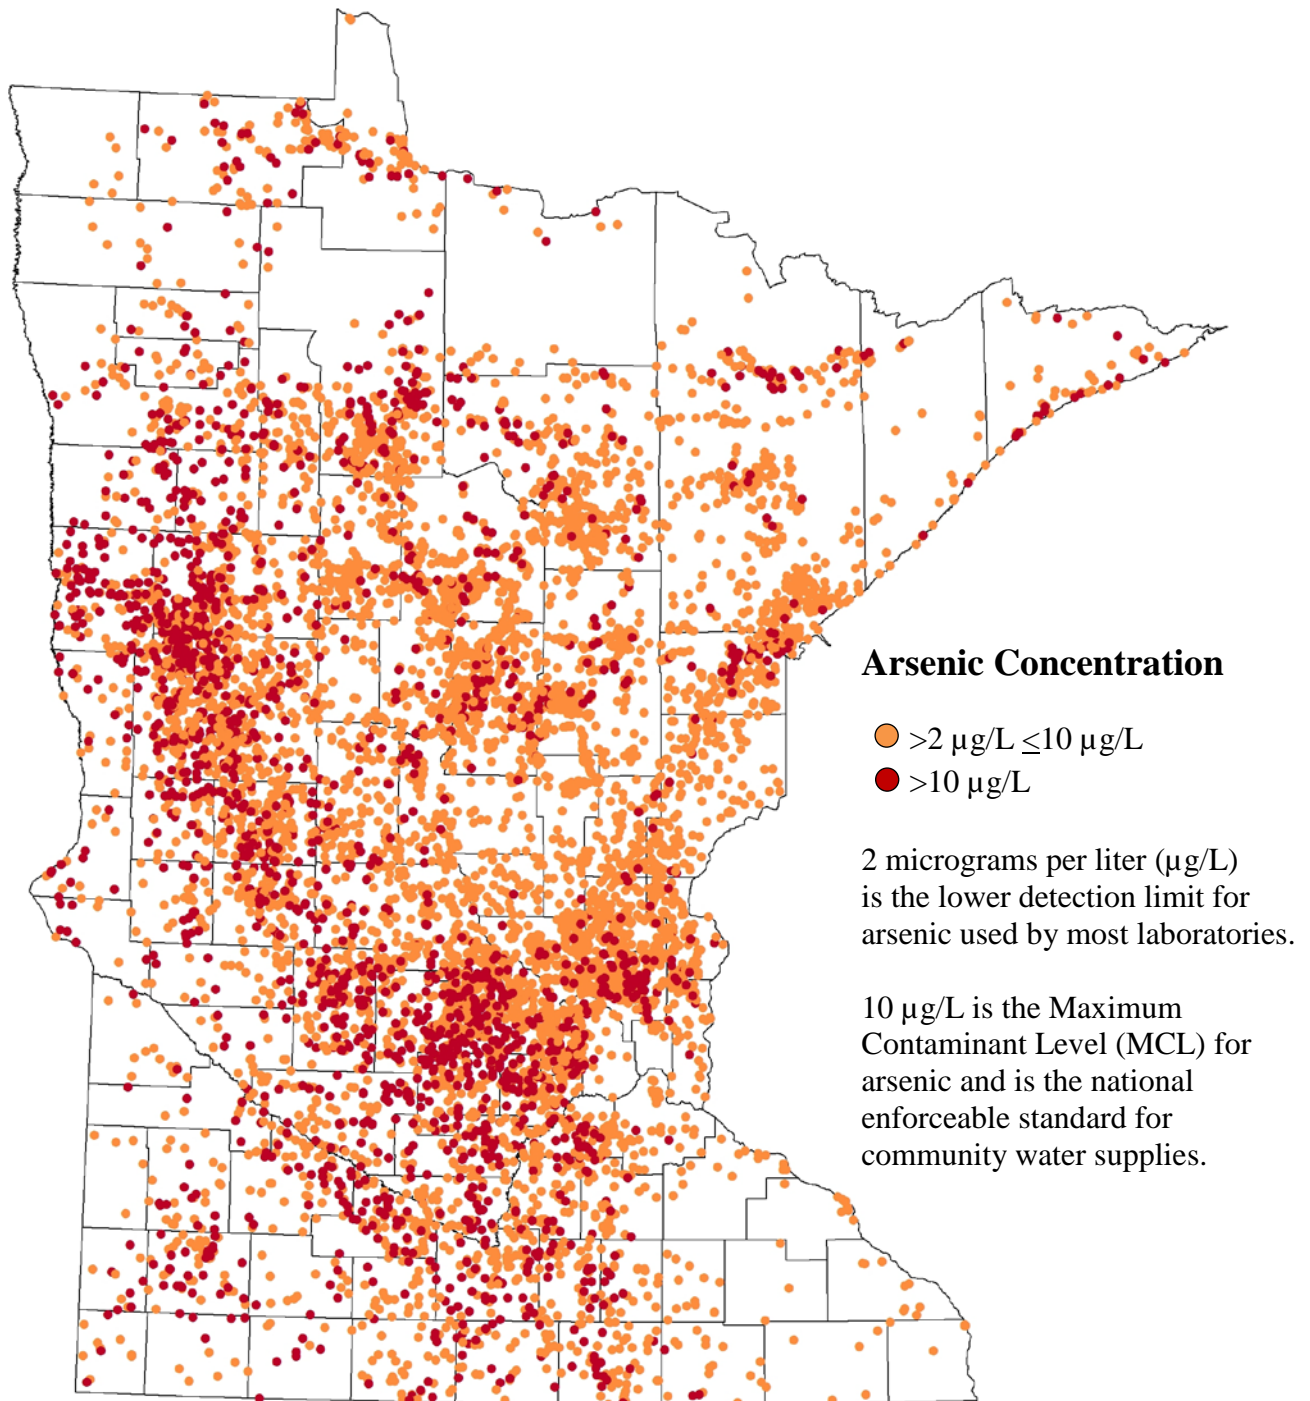

FIGURE 5 Arsenic Concentration Reported for Selected Wells in Minnesota.
**Arsenic** occurs naturally in the groundwater in many parts of Minnesota, and about 10 percent of wells produce water which exceeds 10 micrograms per liter ( $\mu\text{g/L}$ ),\* the federal drinking water standard. Arsenic is more prevalent in western and south central Minnesota, but can occur almost anywhere in the state (see Figure 5, the map on arsenic occurrence on page 22). Long-term consumption of arsenic above the drinking water standard may increase the risk of health problems of the skin, circulatory system, or the nervous system, including some cancers. Every private well should be tested at least once to determine if arsenic is present in the water, and at what levels. Arsenic levels in groundwater will not usually change much over time. Long-term consumption of well water with arsenic levels above 10  $\mu\text{g/L}$  should be avoided.